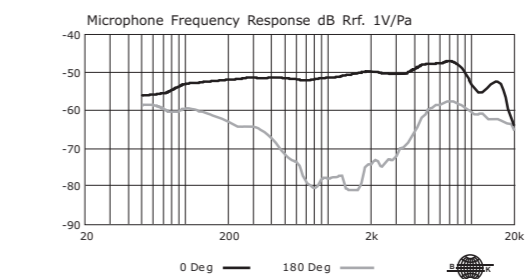

Figure 4 : Frequency Response
- Directionality : cardioid (see Figure 4)